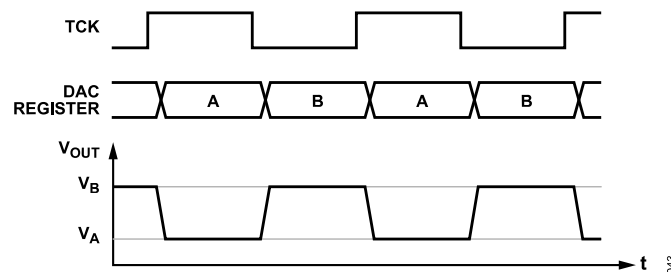

Figure 48. TCK Timing
When the TCK signal is high the DAC outputs a voltage ( $V_A$ ) corresponding to Input Register A, and when TCK is low, the DAC outputs a voltage ( $V_B$ ) corresponding to Input Register B (see Figure 48). The toggle function can be disabled by writing 0x0000 to the toggle/dither enable register (Command 11).
- Apply the toggle clock signal to the TGP2 pin. The DAC output voltage changes on the rising and falling edges of the toggle clock signal as shown in Figure 48.